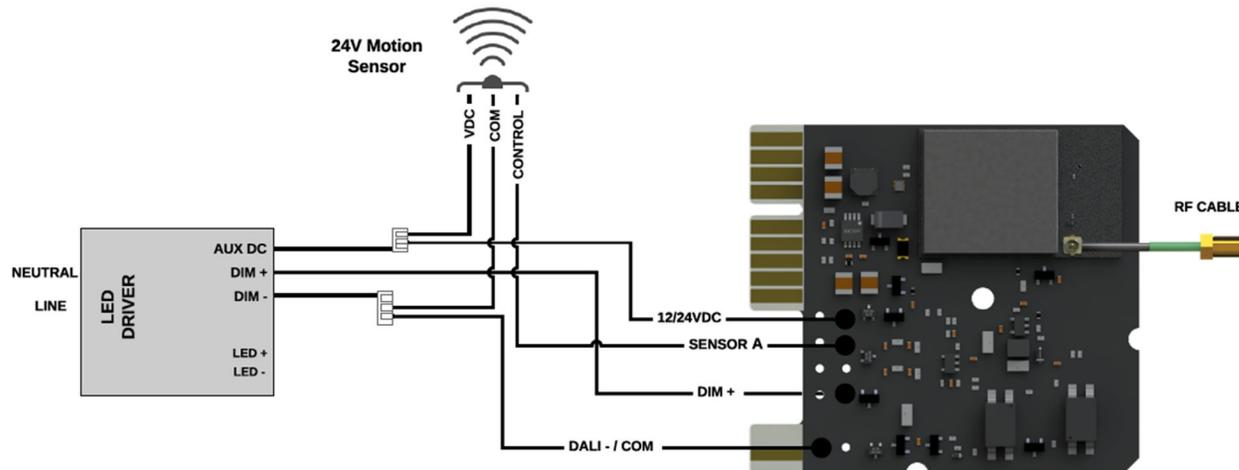

Figure 2 – Dim to OFF Wiring Diagram
(See Figures 2 and 3)
(Figure 2 and 3)
22. Connect the DIM+ wire on the LED driver to the DIM+ output on the DIM10-087-06. (See Figure 2)